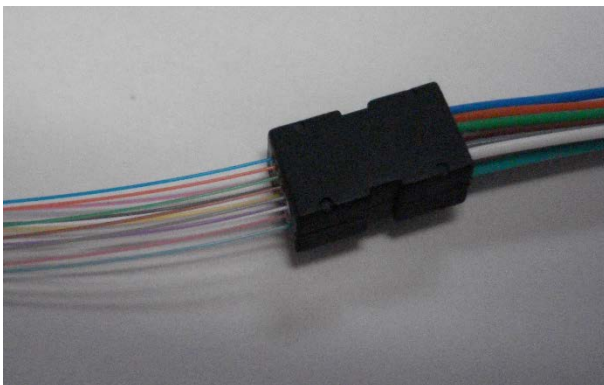

Figure 5
7.3 Once all fibers are inserted into Breakout Unit Assemblies re-confirm that fiber strands are not crossed or twisted over each other between the end of the nylon jackets and the Breakout Unit Assembly block. Crossed fibers may cause additional optical attenuation due to macro-bending. (Our new units are longer than our previous units to allow more length between the PEF jacket and the assembly blocks which makes it less likely to cause attenuation issues.) If fibers are crossed, they should be carefully removed from the Breakout Unit Assembly tubes, straightened out, and re-installed. See Figure 5.